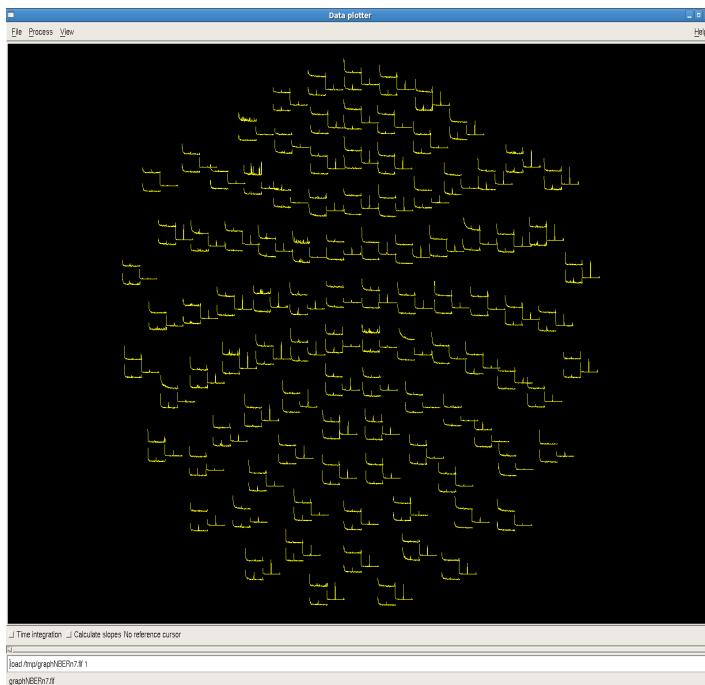

Figure 61: *Xplotter* display shows the updated frequency spectra during and after averaging.
- Adjust the two *Graph* displays to fit on the screen (Figure 60). An *Xplotter* window is also opened for displaying a topographical view of the averaged spectra (Figure 61).
- Saved spectra can be opened and overlaid in *Xplotter*, like in Figure 61.